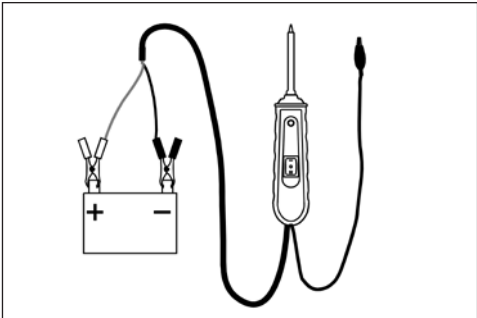

Fig.1
5. Preparing the Auto Probe (Fig.1)